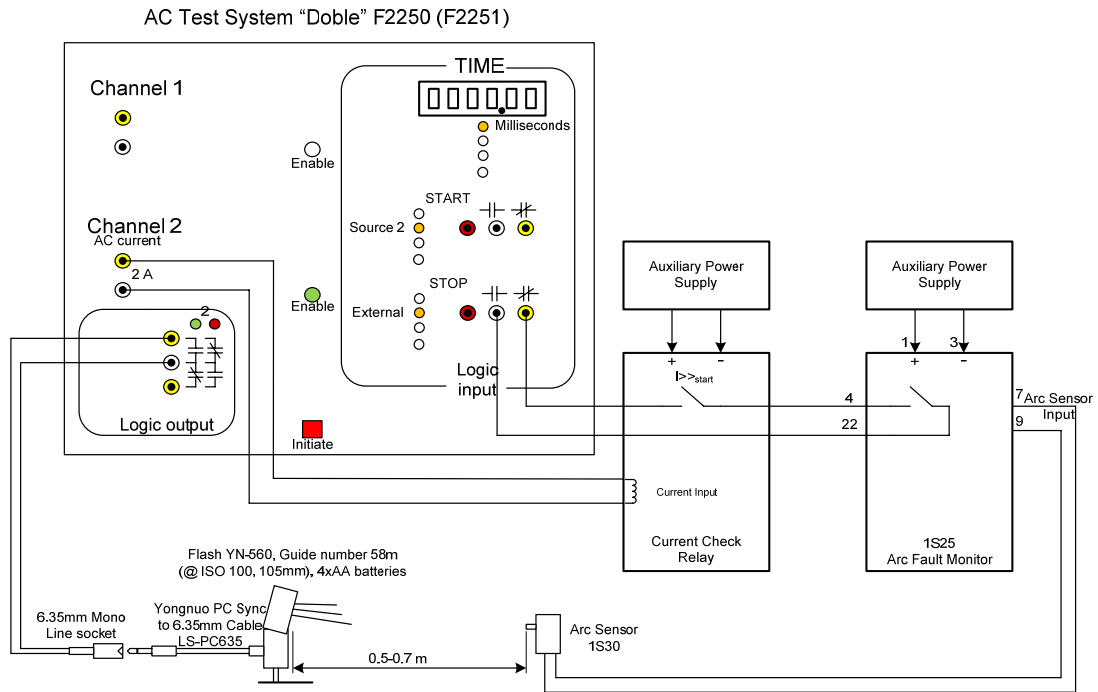

Figure 3: 1S25 (with external current check) test setup
1. Set up the test as shown in the Figure 3. Example shows testing for a single Zone 1 sensor operation.